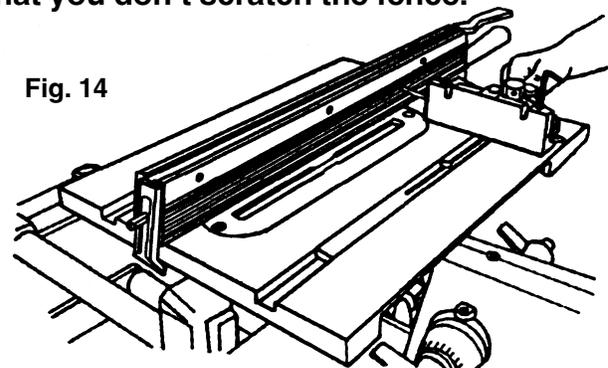

Fig. 14
12. Slide the miter gauge back and forth in the slot, as seen in Figs. 14 and 15. The tip of the Allen wrench should keep in slight contact with the rip fence. Watch that you don't scratch the fence.